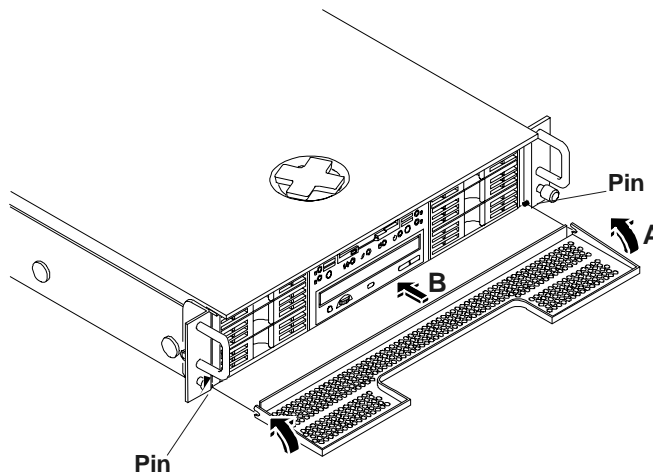

Figure 13-8. Attaching the Bezel to the HP Netserver
1. Position the bezel in front of the HP Netserver LP 2000r, as shown in Figure 13-8.